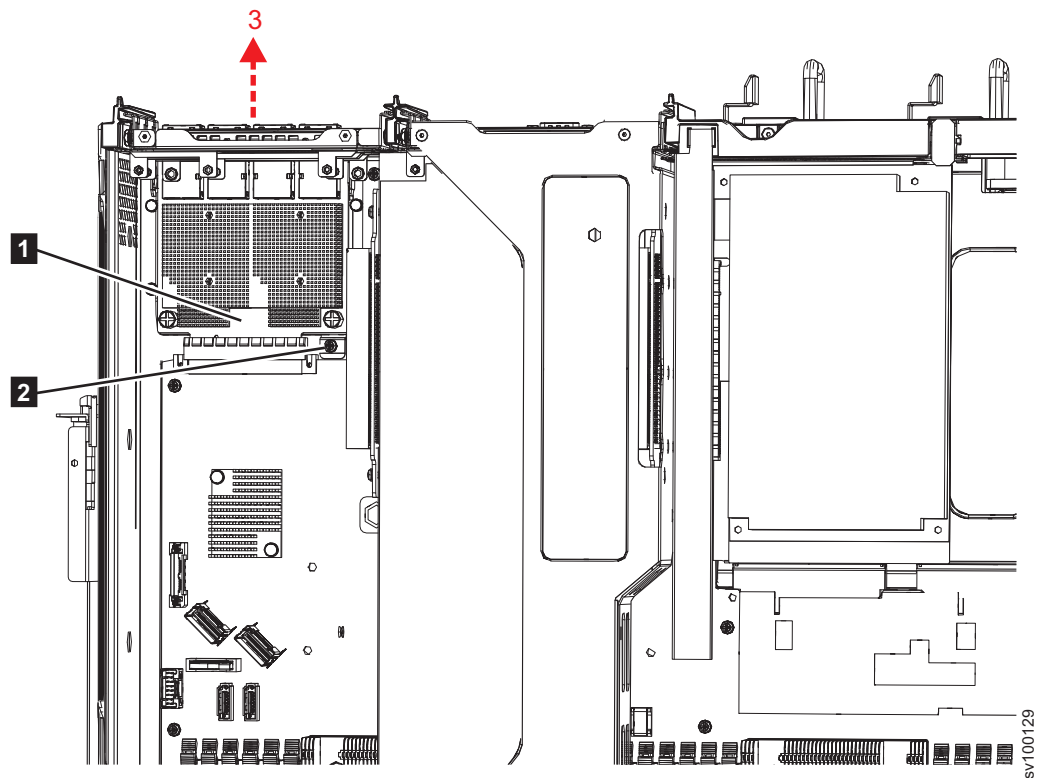

Figure 212. Removing the 2145-SV1 Ethernet edge board
8. Locate the Ethernet edge board (**1**), as shown in Figure 212 on page 262.
9. Remove the screw that attaches the Ethernet edge board to the chassis (**2** in Figure 212).
10. Push the Ethernet edge board out of the port hole at the back of the node in the direction (**3**) that is shown in Figure 212.
Figure 212 on page 262 shows where the Ethernet edge board is attached to the chassis (**2**).